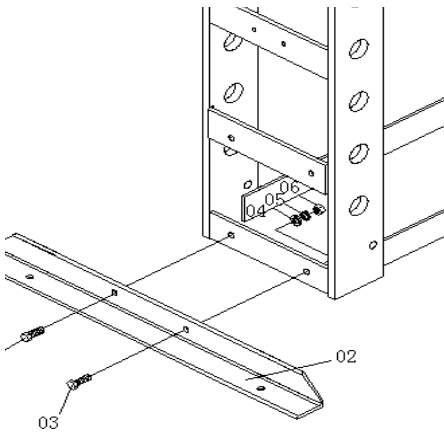

Fig. 1
1. Assemble the base to the body frame by Bolt M14\*40(03), Washer 14(04) and Lock Washer 14(05). (refer to fig 1)